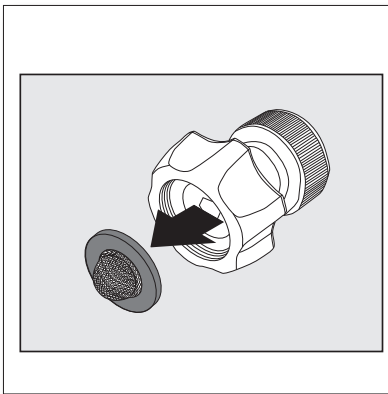

Fig. 16
- The screen inside the clear adapter should be cleaned periodically. Insert a pen or pencil in small hole at the end of the adapter. The screen filter will slide out (**Fig. 16**). Rinse it with clean water, and then place it back in the adapter..